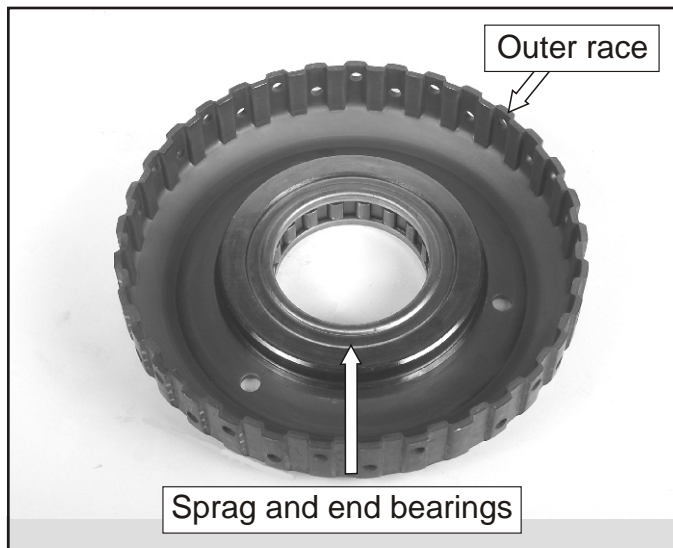

Figure 130
- 76. Remove the sprag and end bearings from the outer race, as shown in Figure 130, and check for wear in the area where the sprag rides. Replace as necessary.